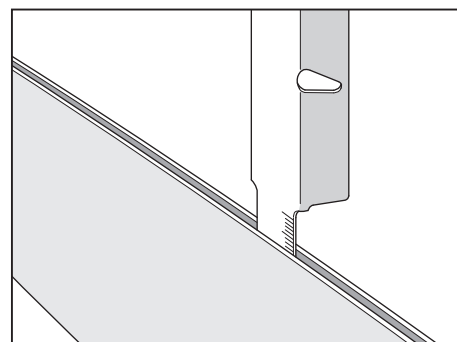

Fig. 15
- Measure the depth of the bar groove (see fig. 15).